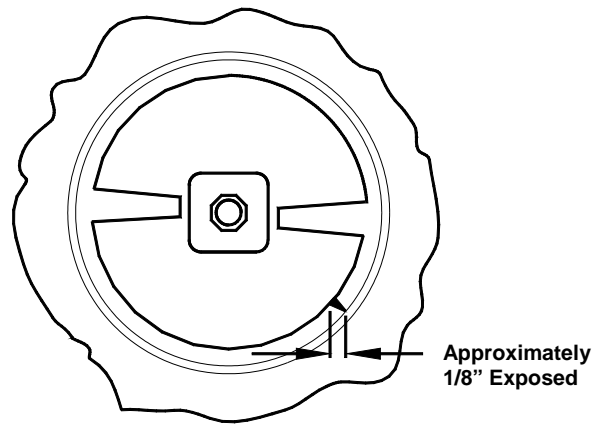

**Fig. 16
e. Insert the dasher assembly into the freezing cylinder as far as possible (Fig. 15) being careful not to damage the scraper blades. Damage will occur to the scraper blades and the dispenser will not operate properly if the scraper blades are installed facing in a clockwise direction (Fig. 16).
Note: The stator rod has been deleted from Fig. 15 and Fig. 16 for clarity only. They must be installed for proper machine operation.